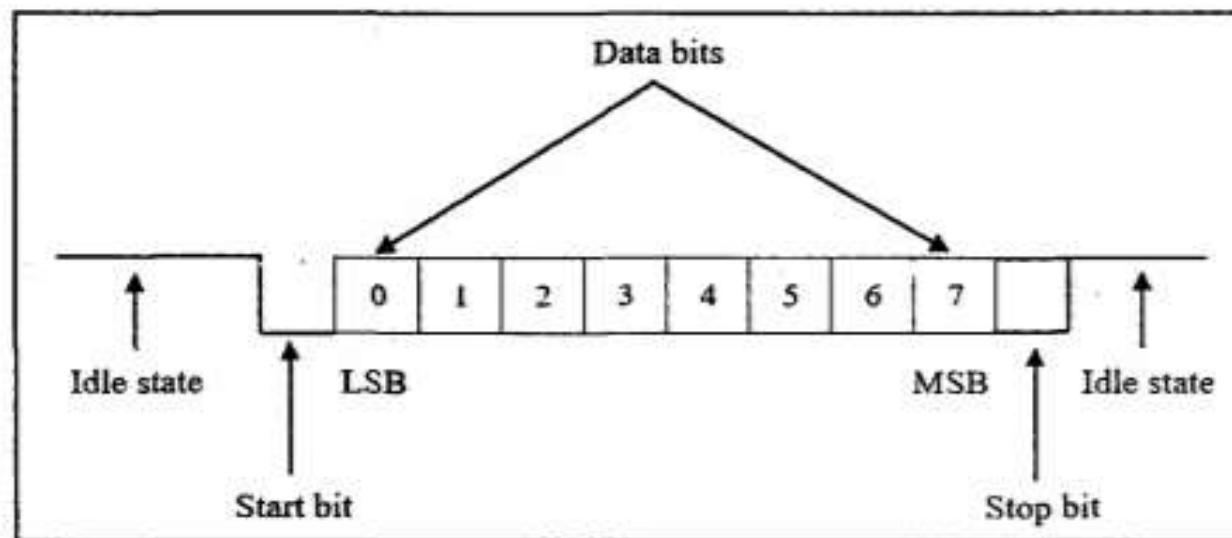

Figure 3.20 UART serial communication protocol
- The serial communication is based on UART protocol shown in Figure 3.20. The baud rate used for this Serial Module is 115200 per second.